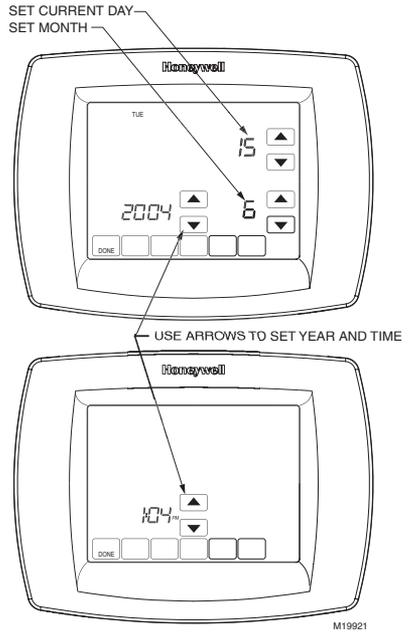

Fig. 20. Setting calendar and time after initial powerup.
This thermostat is designed to automatically keep the current time and day in memory for up to ten years under normal use once the calendar is set. When the thermostat is first powered, the display is ready for the calendar date to be entered. See Fig. 20.
1. Use the arrow keys to set the Year, Month and Day, as shown in Fig. 20.
3. Use the arrow keys to set the current time. See Fig. 20.